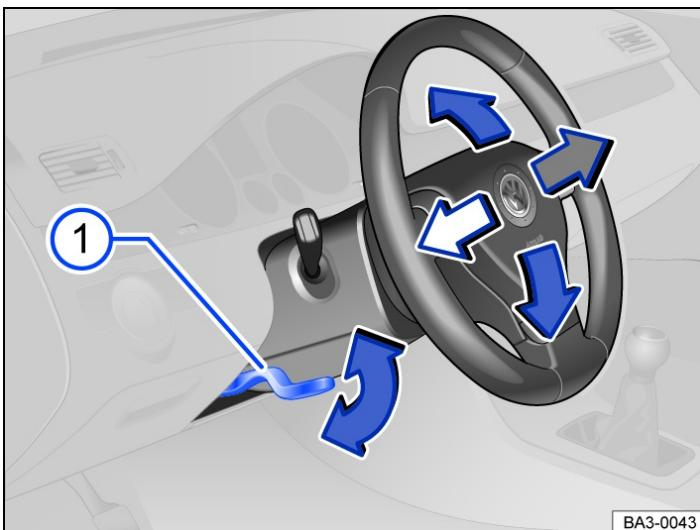

Fig. 1 Below the steering wheel in the steering column trim:
- Push down the lever → Fig. 1 ①.